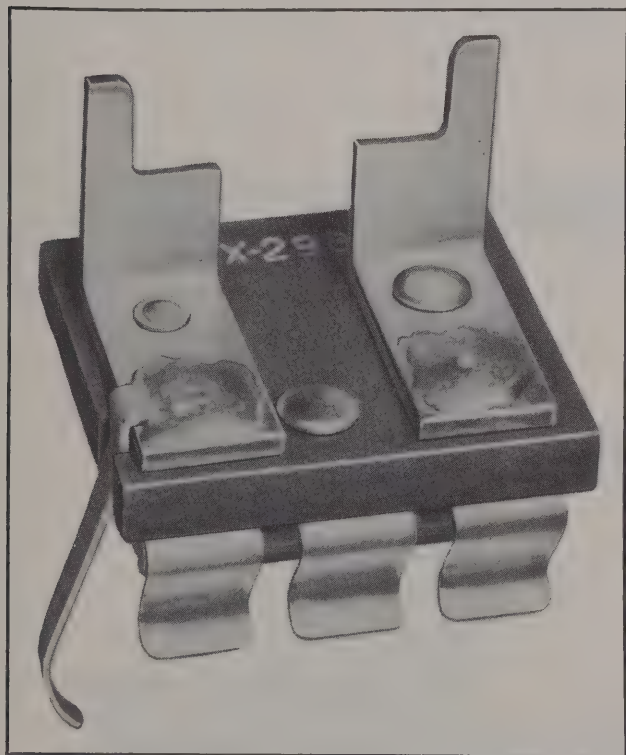

Figure 1-8. Adapter MX-293/ARM-1
h. ADAPTER MX-293/ARM-1.—This adapter consists of contact clips mounted on an insulated base for the purpose of connecting the signal generator output to the grid of the first detector tube. The clips are formed in such a manner so that when the adapter is installed on the four-gang variable capacitor frame of the radio receiver, contact is made with the grid pin of tube JAN-9001 (V-209). (See figs. 1-8 and 2-8.)